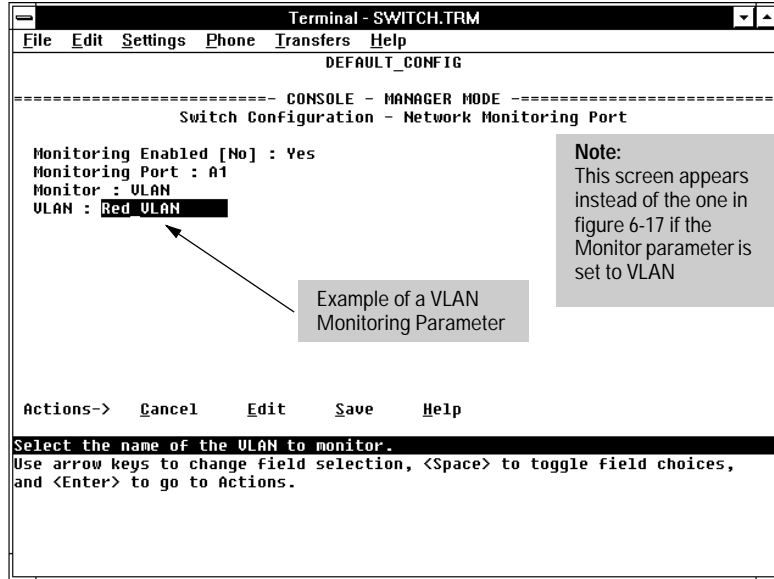

Figure 6-18. Example of Selecting a VLAN to Monitor
- If, instead of individual ports, you want to monitor all of the ports in a VLAN, press the Space bar to select **VLAN** in the **Monitor** parameter, then press **↓** to move to the **VLAN** parameter (figure 6-18 on page 6-33). Then press the Space bar again to select the VLAN that you want to monitor. When you are finished, press **Enter**, then press **S** (for **Save**) to save your changes and exit from the screen.